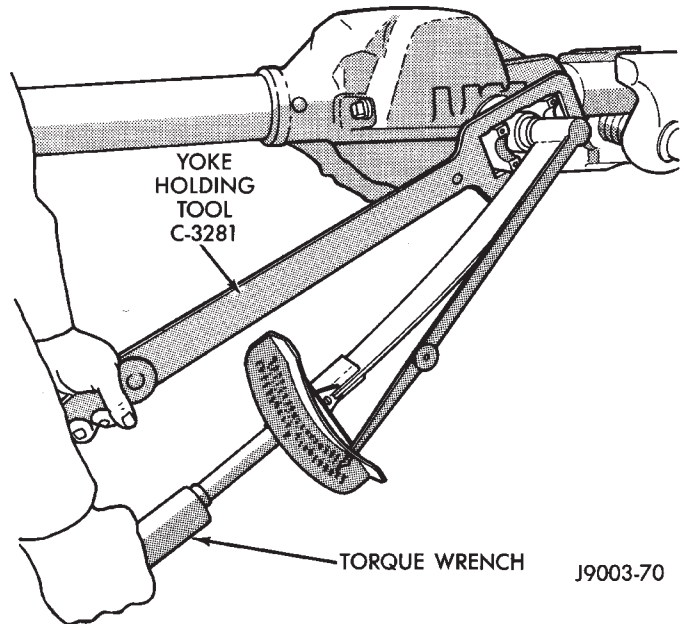

Fig. 26 Tightening Pinion Gear Nut
(19) Remove the tools. Install the Belleville washer. The convex side of the washer must face outward. Install the pinion nut.
(20) Retain pinion yoke with Wrench C-3281. Initially tighten the pinion gear shaft nut enough to remove the bearing end play. While tightening, rotate the pinion shaft to ensure the bearing rollers are correctly seated.
(21) Tighten the pinion nut (Fig. 26) to 285 N·m (210 ft. lbs.) torque (minimum).